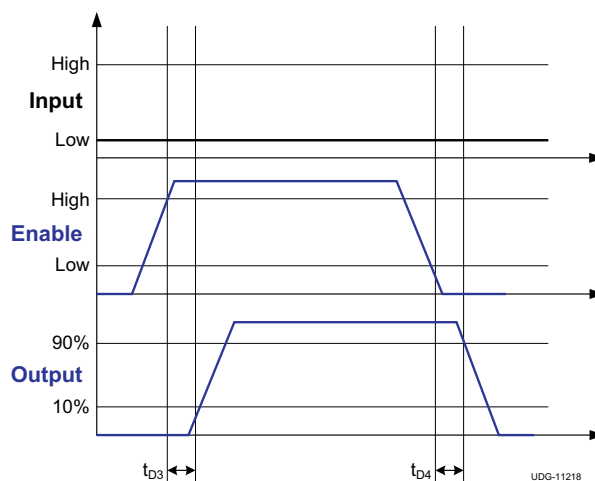
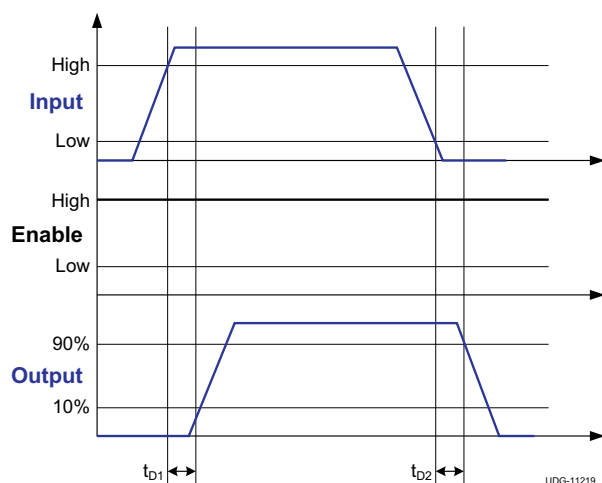

**Figure 2. Enable Function
Figure 3. Non-Inverting Input Driver Operation
(3) See timing diagrams in Figure 1, Figure 2, Figure 3 and Figure 4